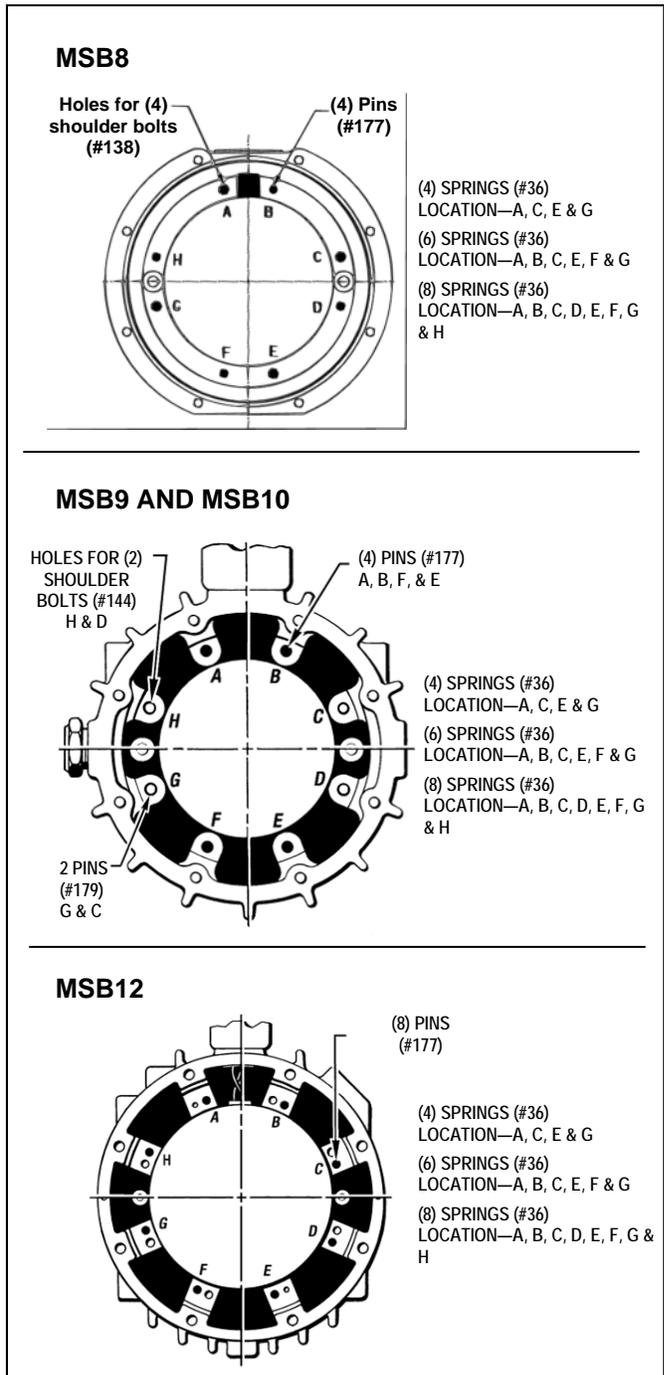

Figure 7.7—Correct placement of brake springs
9. Remove the (2) Hex Nuts (#315) and (2) Flat Washers (#274) from the (2) Manual Release Shafts (#189).
10. Loosen and remove the (2) Shoulder Bolts (#144) that holds the Armature Plate (#56) in place. Lift the Armature Plate (#56) and Thrust Plate (#5) up and out of the End Housing (#9).
**CAUTION: This Armature Plate (#56) is under spring pressure so loosen the (2) Shoulder Bolts evenly and very carefully.**
11. Note the quantity and position of Springs (#36). Make a sketch of their location to help you at reassembly or as shown in Figure 7.7.
12. Remove the (4) Screws (#150) and (4) Seal Washers (#167) from the End Housing (#9). Lift the Holding Coil (#59) out of the End Housing (#9).
2. Attach the Coil (#59) with (4) Seal Washers (#167) and (4) Screws (#150).
**IMPORTANT - Torque the (4) 1/2"-13 Screws to 45 Lb. Ft.**
3. Set the End Housing (#9) so the Coil (#59) is facing upright. Install the Brake Springs (#36) as described below and shown in Figure 7.7.
**NOTE -** There are (4) Pins (#177) & (2) Pins (#179) installed in the End Housing (#9) and also (2) 3/8"-16 tapped holes for the (2) Shoulder Bolts (#144). The Pins (#177), (#179) and Shoulder Bolts (#144) are all used for the installation of the required number of Brake Springs (#36).
4. Place the correct number of Springs (#36) over the Pins (#177 as shown in Figure 7.7).
5. Set the Armature Plate (#56) and Thrust Plate (#5) in position on the Springs (#36). Insert the (4) Shoulder Bolts (#144) and tighten down evenly to compress the Springs (#36). **Use Blue Loctite #242 and torque to 25 Lb. Ft.**
6. Attach the (2) Lock washers (#129) and (2) Flange Nuts (#315) to the (2) Manual Release Shafts Part (#189). **Torque to 25 Lb. Ft.**